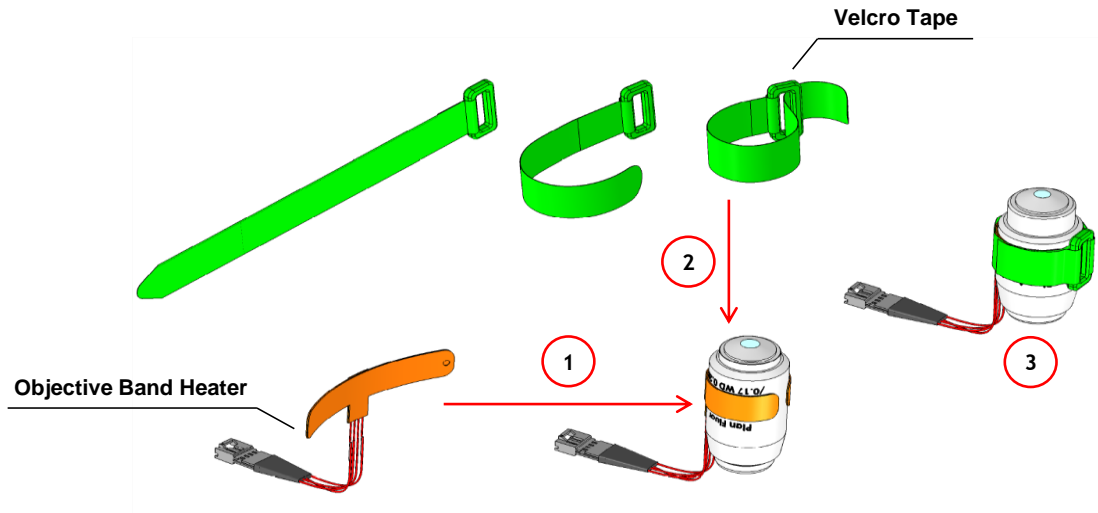
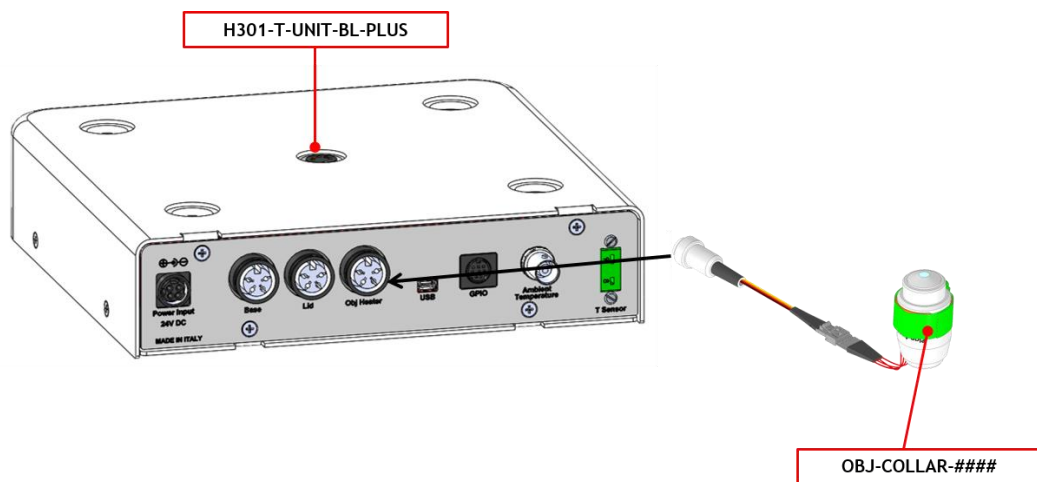

Figure 3. Objective Heater (OBJ-COLLAR ####) Assembly
Figure 4. OBJ-COLLAR Connection (Optional)
- When using oil immersion objectives an Objective Heater should also be purchased. If your system is also equipped with the Objective Heater, (OBJ-COLLAR ####, optional) its objective collar should be installed before connecting the heater to rear panel of the Temperature Control Unit. Follow the steps shown in Figure 3. Once you have assembled it, plug it into the port labeled 'Obj. Heater' located on the rear panel of the Temperature Control Unit (see Figure 4).